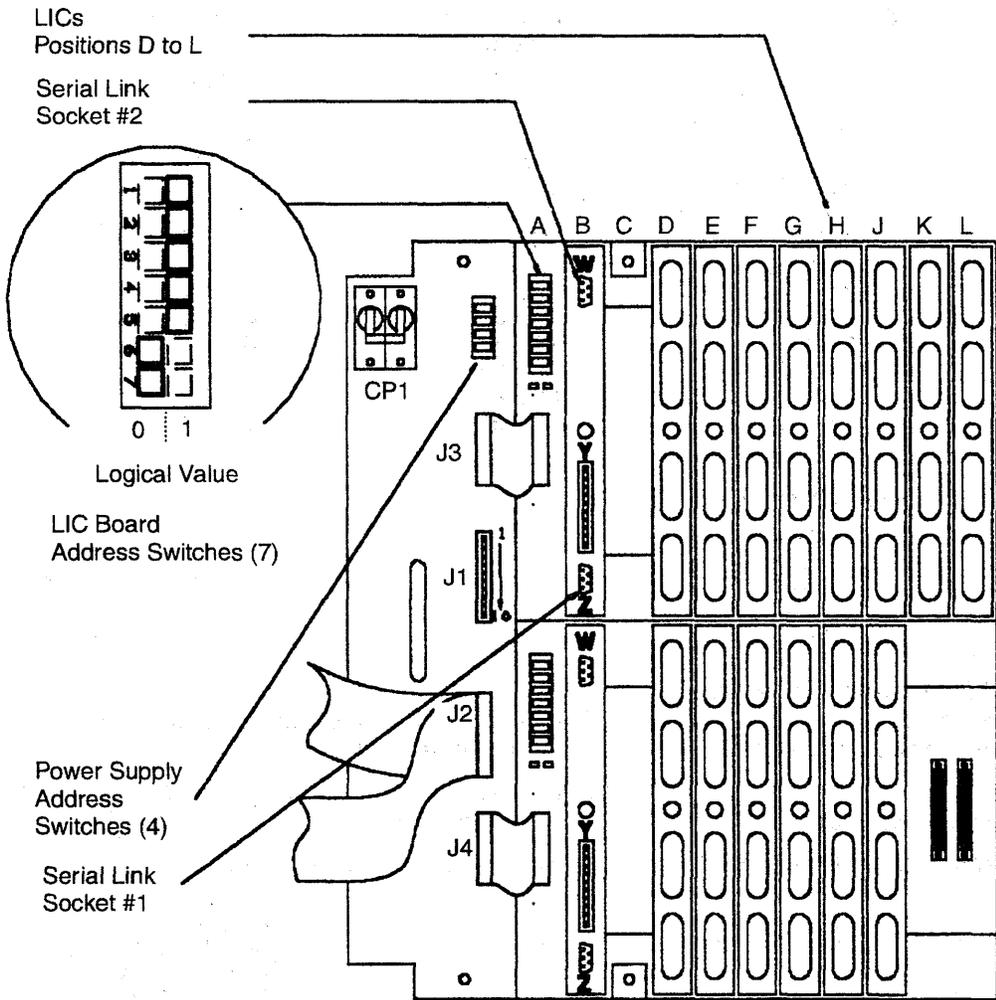

Figure 4-136. LIC Board Type 1 Assembly
Refer to Figure 4-136 on page 4-149 and do the following:
1. Refer to Figure 4-136 on page 4-149 and set the board address the same way you noted it during board removal.